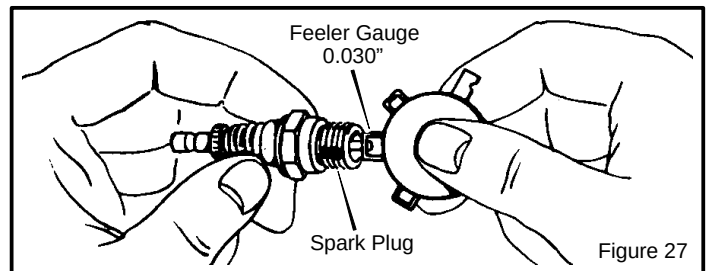

Figure 27
1. Check the gap of the **spark plug** with a **feeler gauge** (Figure 27). The correct gap is **0.030"**.